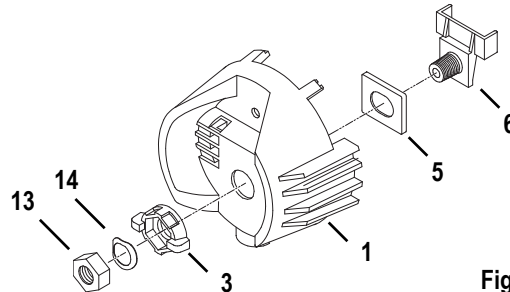

Figure 6
Step 16: Install the bushing cup (5) into the housing socket casting (1) as shown in Figure 6. The cup should slide smoothly up and down, but not side to side.
Step 17: Insert the threaded end of the index hub (6) through the holes in the bushing cup and the back of the housing socket casting (1).
Step 18: Slide the X-Y knob (3) over the exposed index hub bolt (6), then insert the wave washer (14) on the bolt and secure with the 9/16 hex nut (13). Hand tighten the X-Y knob (3).